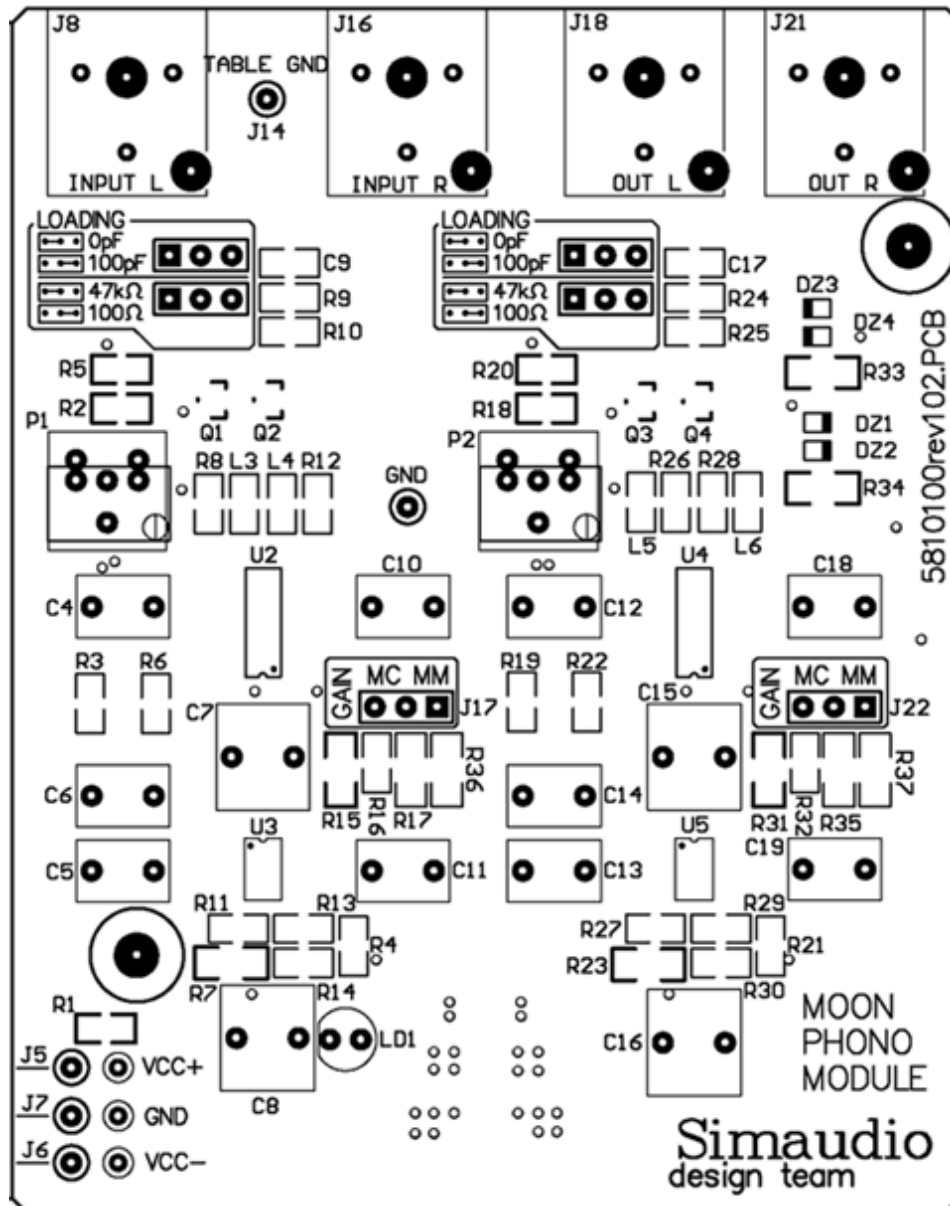

Figure 2: MOON P5.3 Optional Phono Section Circuit Board Layout
There are two (2) different settings available for setting the resistive load; 100Ω and 47kΩ which are represented by jumper sockets R9 for the left channel and jumper socket R24 for the right channel (refer to figure 2 – section labelled "LOADING"). The factory default setting is 47kΩ, therefore both jumpers will be found in each of the two left most sockets.
There are two (2) different settings available for the capacitive load; 0pF and 100pF which are represented by jumper sockets C9 for the left channel and jumper sockets C17 for the right channel (refer to figure 2 – section labelled "LOADING"). The factory default setting is 100pF for a moving magnet cartridge, therefore both jumpers will be found in each of the two right most sockets.
There are two (2) different settings available for gain level. They are 40dB for MM cartridges and 60dB for MC cartridges, which are represented by jumper socket J17 for the left channel and jumper socket J22 for the right channel (refer to figure 2 – section labelled "GAIN"). The factory default setting is for a MM cartridge, therefore both jumpers will be found in each of the two right most sockets labelled MM; ***It is highly recommended that you do not use the jumpers labelled MC for an MM cartridge as this will overload the preamp.*** In the event that you're using a MC cartridge, you should insert the supplied jumpers into each of the two left-most sockets labelled MC.